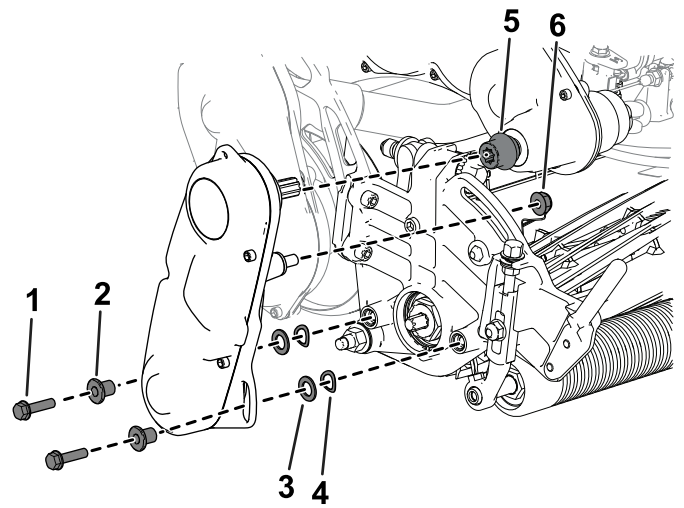

Figure 36
3. Remove the reel-drive assembly from the cutting unit (Figure 36) and retain the hardware.